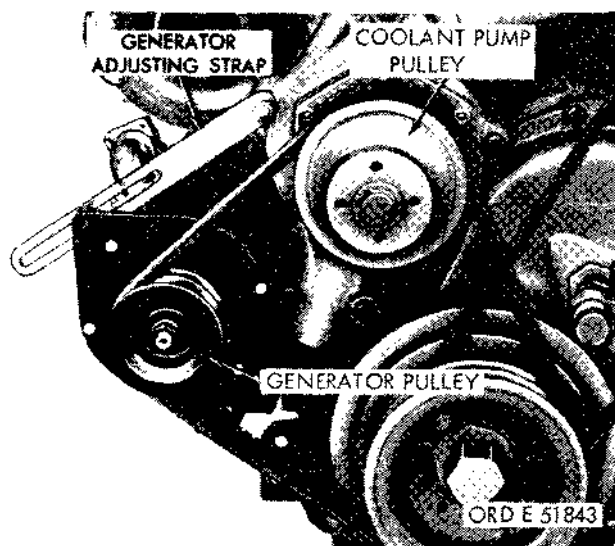

Figure 2-130. Removing fan and generator drive belts.
*c. Installation (fig. 2-130).*
- (1) Position the belts over the fan, crankshaft, and generator pulleys.
- (2) Adjust the belts as described in *a* above.